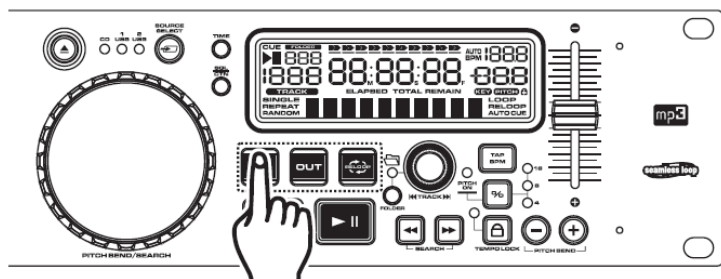

Figure 17
Press the IN button (11). This will set the starting point of the Seamless Loop (Figure 17).